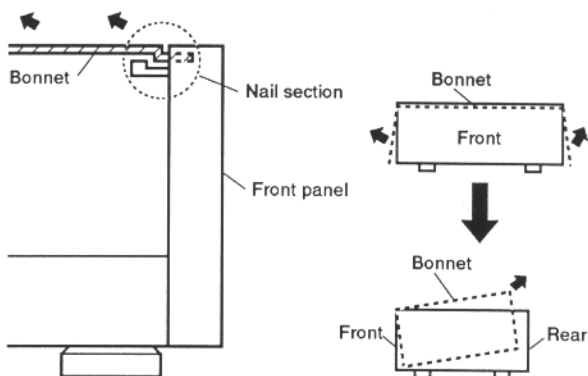

Fig. 6
**Note:** If you pull up the rear base of the bonnet to remove it as in the conventional manner, the hooks shown in Fig. 6 may be caught and the hooks on the front panel side may be deformed.